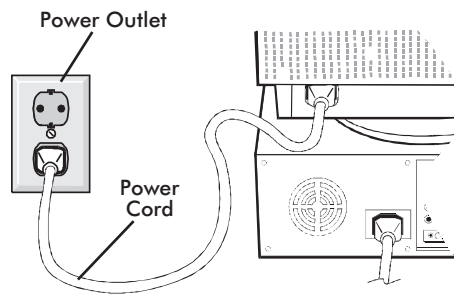

Figure C.1
4. Connect one end of the power cord to the MultiSync FE700 monitor and the other end to the power outlet (Figure C.1).